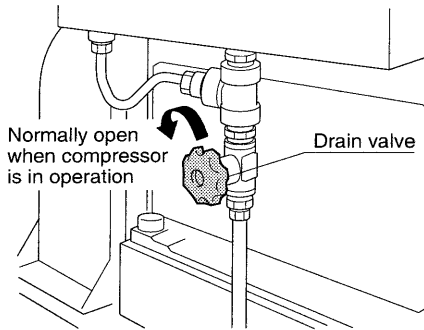

Fig. 8
- * **Drain valves under the drain separator (1st stage) and cooler cover (2nd stage) have to be closed at maintenance and inspection of the magnetic valve and at malfunction of the magnetic valve. In normal operation, keep the drain valves open. (Fig. 8)**